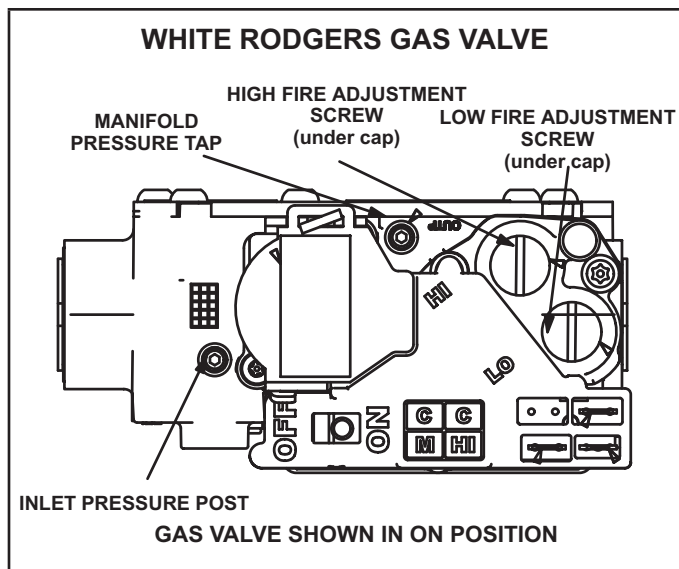

FIGURE 17
- 6 - Turn switch on gas valve to OFF. Do not force. See FIGURE 17. .
- 4 - Turn switch on gas valve to **OFF**. Do not force. See FIGURE 17.
An inlet post located on the gas valve provides access to the supply pressure. See FIGURE 17. Back out the 3/32 hex screw one turn, connect a piece of 5/16 tubing and connect to a manometer to measure supply pressure. See TABLE 16 for supply line pressure.
- 1 - Connect test gauge to manifold pressure tap (FIGURE 17) on gas valve.
- 4 - If necessary, make adjustments. FIGURE 17 shows location of high fire and low fire adjustment screw.